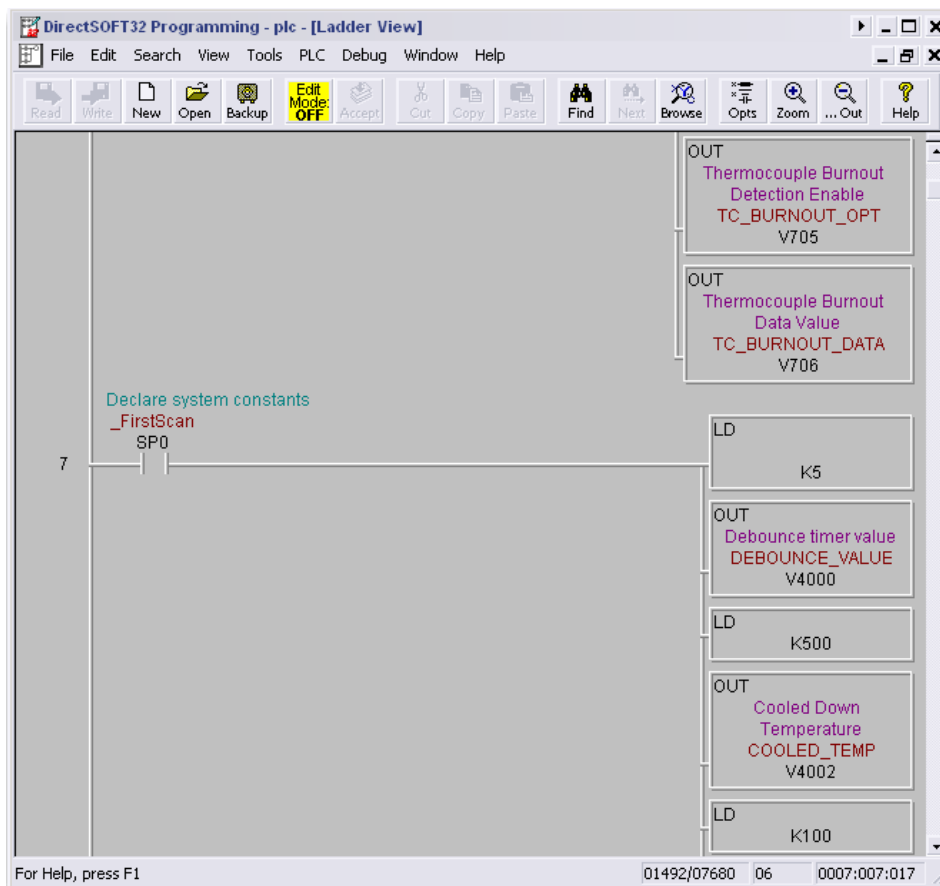

Figure 1: Ladder View
3. With the project open in DirectSOFT32, select 'View' in the menu bar and click Ladder View. The screen should resemble Figure 1.
In Figure 1, the beginning rung 7 is shown. This rung contains system constants that are initialized upon system startup. To initialize a constant, a value is loaded into the PLC's accumulator with the 'LD' command and then it is written out to the variable's memory location using the 'OUT' command. Constant numerical values are preceded by a 'K'. The system constants are as follows: